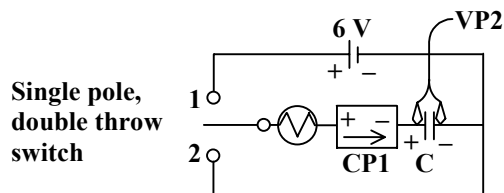

Figure 2-2: Current and voltage probes connected to Figure 5-4 circuit.
- Connect the probes in the circuit as in Figure 2-2 to measure the current through the light bulb and the potential difference across the capacitor.
2. Replace the light bulb in your circuit (Figure 2-2) with a $100\ \Omega$ resistor, and the large capacitor with one in the $80\ \mu\text{F}$ to $120\ \mu\text{F}$ range. (Use the PASCO RLC circuit board.) Move the switch to position 2. **Begin graphing** and immediately move the switch to position 1. Data taking will cease automatically.